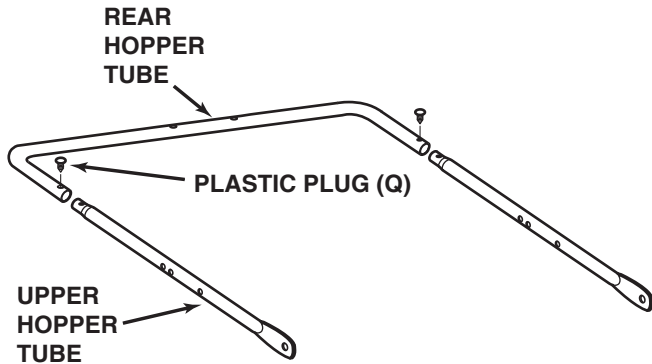

FIGURE 7
- Fit the ends of the two upper hopper tubes into the ends of a rear hopper tube. Align the holes in the ends of the tubes and insert plastic plugs (Q). See figure 7.